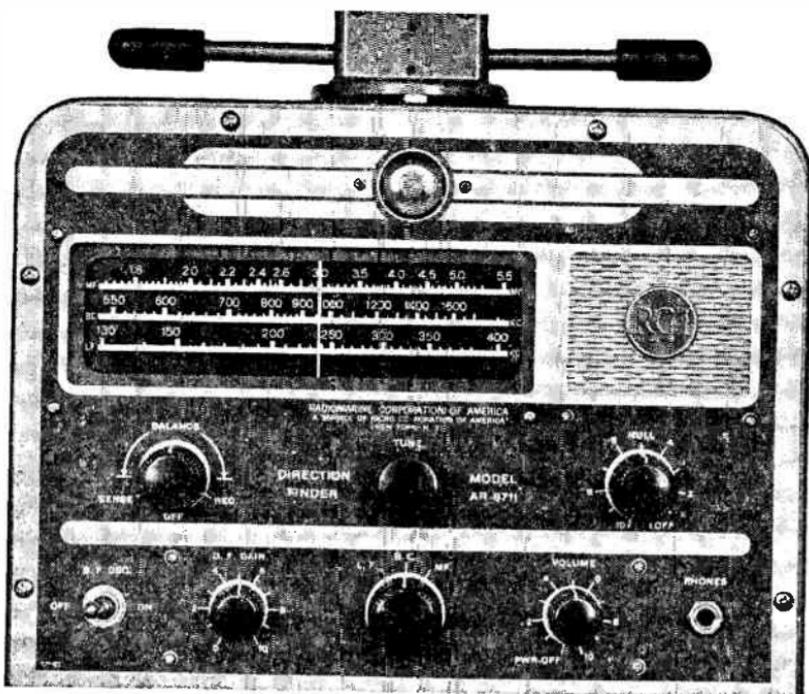

Fig. 14.
A method of balancing the voltages induced in each loop leg due to reflections and spurious radiations from external metallic objects and not necessitating the use of push-pull tubes is shown in Figure 14.
2.4—*Panel Controls*: A minimum number of controls provide efficient operation. They are marked as follows. See Figure 14 for their panel locations.